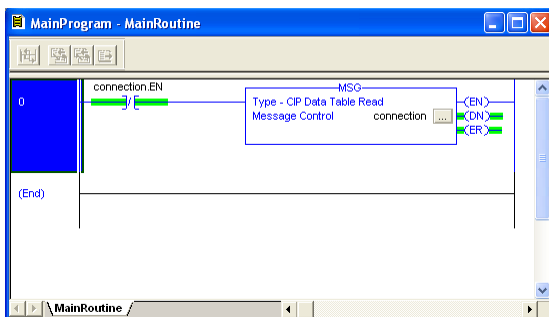

Figure 60: Complete Program
- 6) The program is now complete. Refer to Figure 60.